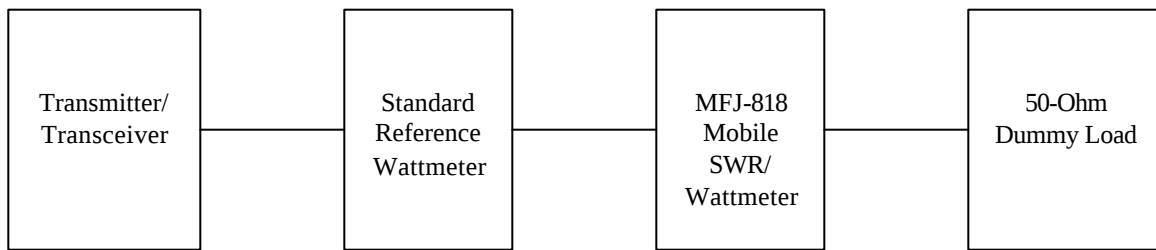
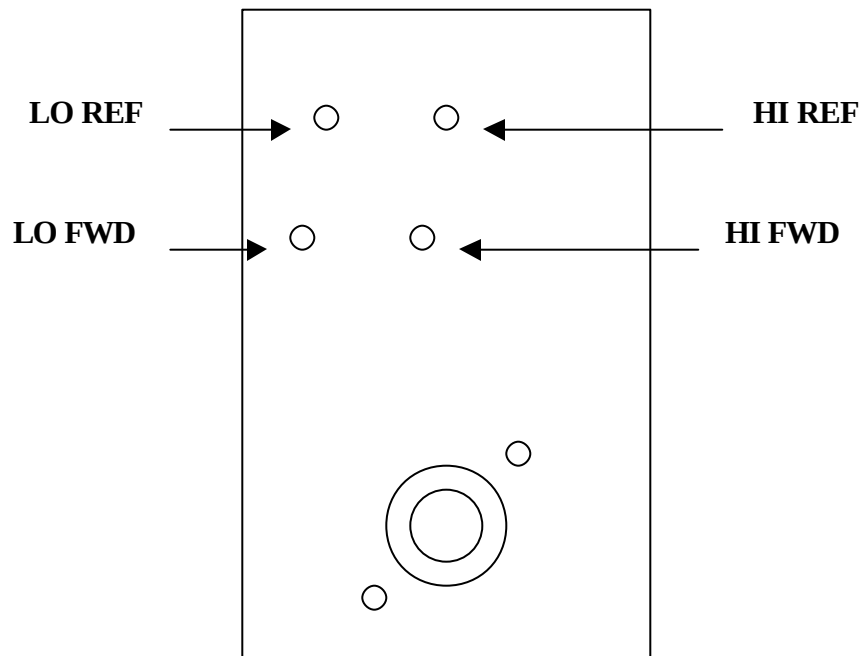

Figure 2: Test Setup
Figure 3: Trim Pot Location (Side View of MFJ-818)
1. Refer to *Figure 2* for the Test Setup and refer to the Trim Pot Location in *Figure 3* for trim pot location.
2. Connect the Test Setup equipment as shown in *Figure 2*. Use a 50-ohm dummy load for the antenna. Set the Transmitter to the 14 MHz in the 20-meter band.